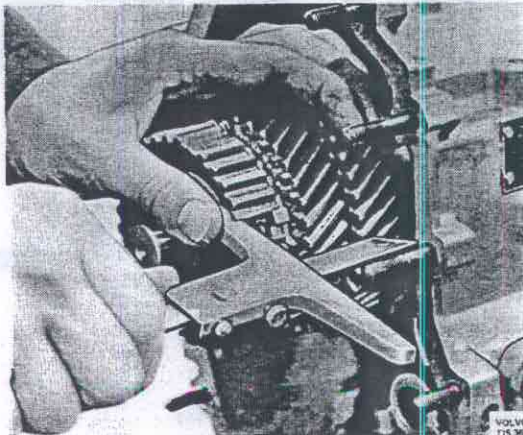

Fig. 43-103. Checking distance
4. With a depth gauge measure the distance from 3rd-4th synchronizing hub to the gearbox housing face, Fig. 43-103.